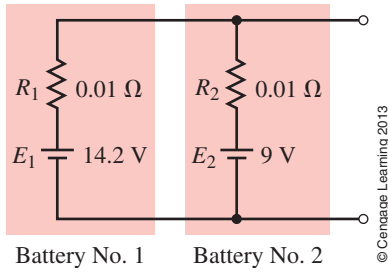

FIGURE 6-70
28. Two lead-acid automobile batteries are connected in parallel, as shown in Figure 6-70, to provide additional starting current. One of the batteries is fully charged at 14.2 V and the other battery has discharged to 9 V. If the internal resistance of each battery is $0.01\ \Omega$, determine the current in the batteries. If each battery is intended to provide a maximum current of 150 A, should this method be used to start a car?